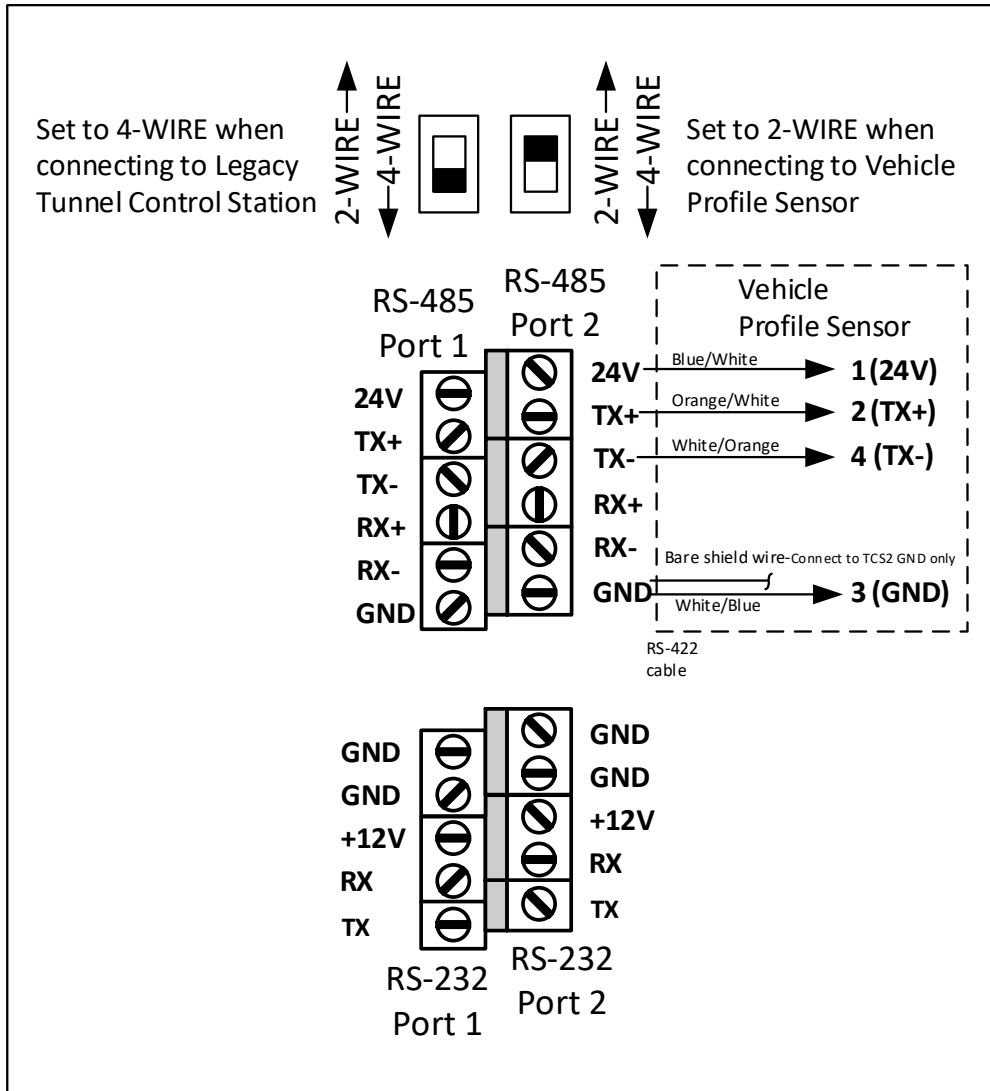

Figure 20: TCS2 to Vehicle Profile Sensor Wiring
- a. See Figure 20: TCS2 to Vehicle Profile Sensor Wiring.
- b. See Figure 20: TCS2 to Vehicle Profile Sensor Wiring.